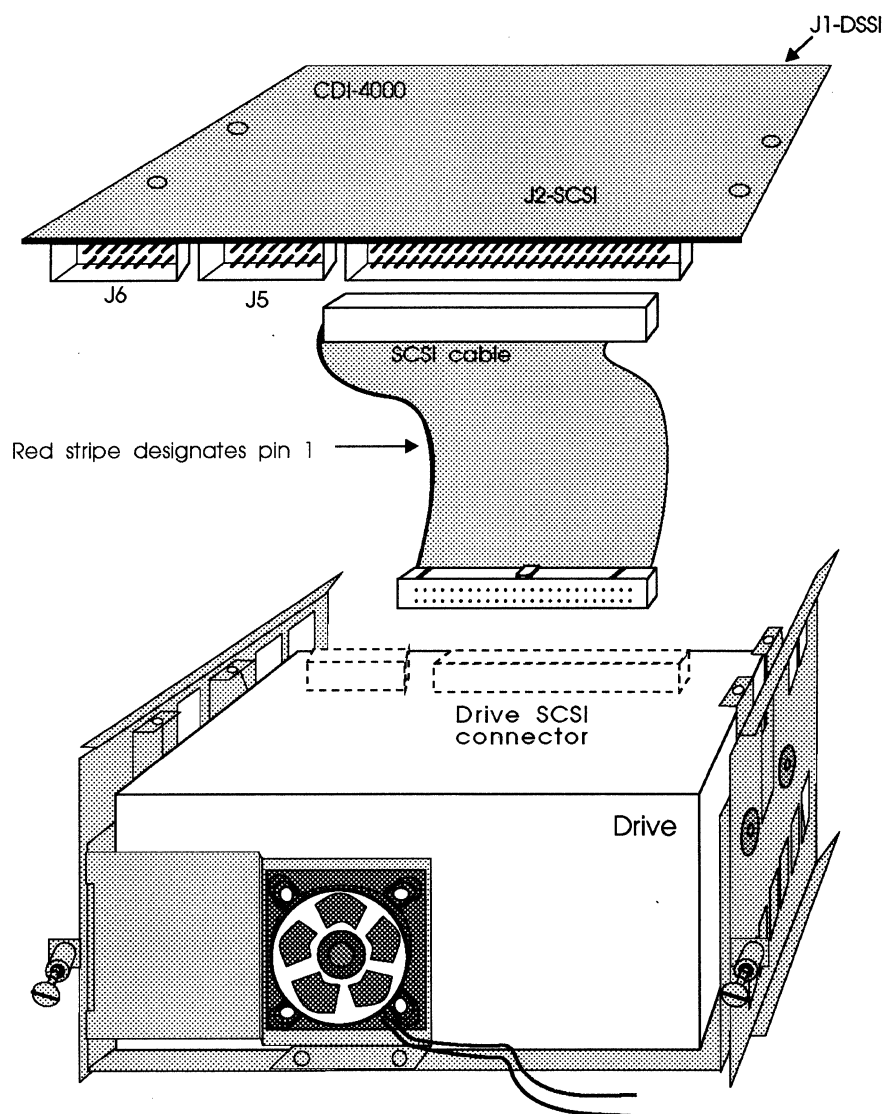

Figure 4-3: CDI-4000-SAE SCSI cable connection
- 5 Connect the SCSI cable to J2 of the CDI-4000 and the SCSI connector on the back of the drive (component side of CDI-4000 must face drive). See Figure 4-3 and 4-4.